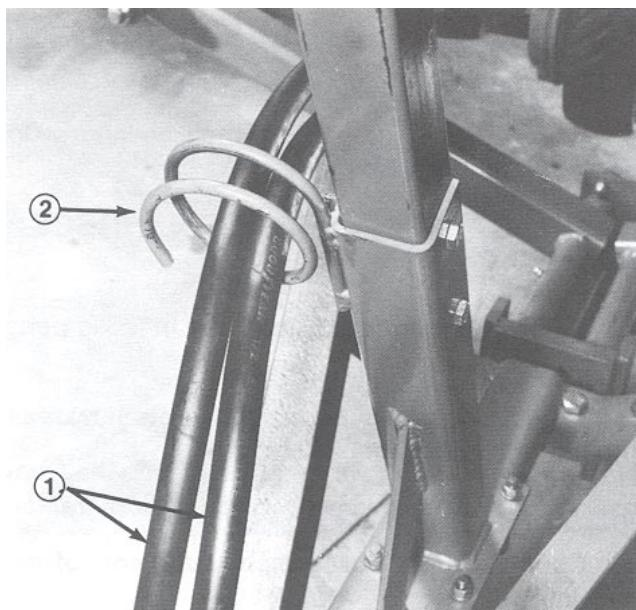

Figure 6
- Route supply and return hoses through hose hanger (Fig. 6).